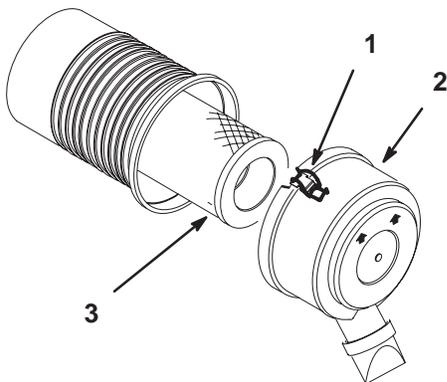

Figure 36
3. Clean around the air cleaner to prevent dirt from getting into the engine and causing damage. Loosen retaining clips and remove air cleaner cover (Fig. 36).
4. Carefully remove filter from compartment (Fig. 36).
1. Carefully slide the element into the compartment (Fig. 36).
2. Place the air cleaner cover onto compartment and latch retaining clips (Fig. 36).